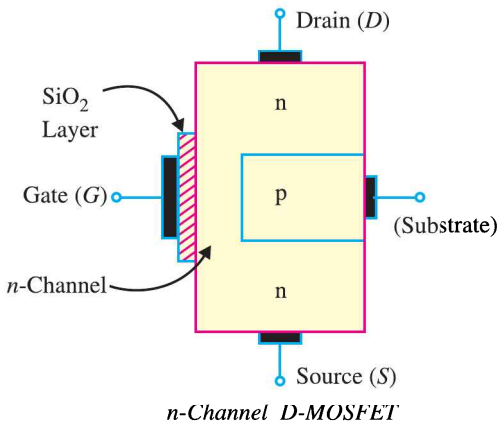

Fig. 19.43
1. D-MOSFET. Fig. 19.43 shows the constructional details of *n*-channel *D-MOSFET*. It is similar to *n*-channel *JFET* except with the following modifications/remarks :
(i) The *n*-channel *D-MOSFET* is a piece of *n*-type material with a *p*-type region (called *substrate*) on the right and an *insulated gate* on the left as shown in Fig. 19.43. The free electrons (\because it is *n*-channel) flowing from source to drain must pass through the narrow channel between the gate and the *p*-type region (*i.e.* substrate).